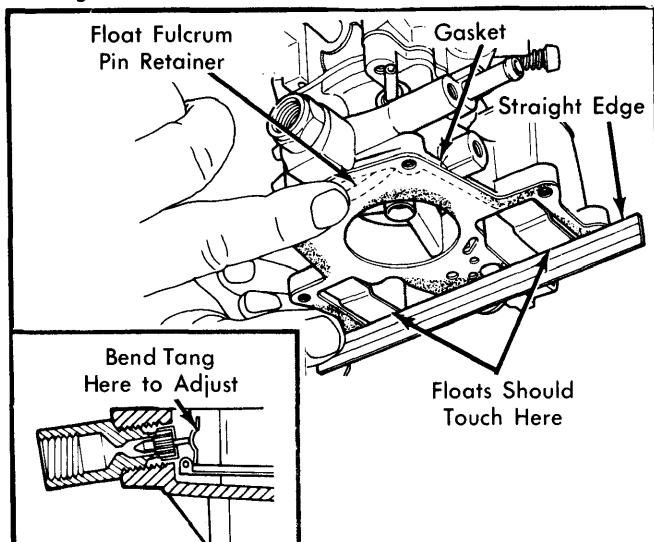

Fig. 1 Adjusting Float Level
1) With air horn removed, turn main body upside down with gasket installed. Using a straightedge, check that ends of floats, away from the fuel inlet, just contact the straightedge. See Fig. 1.